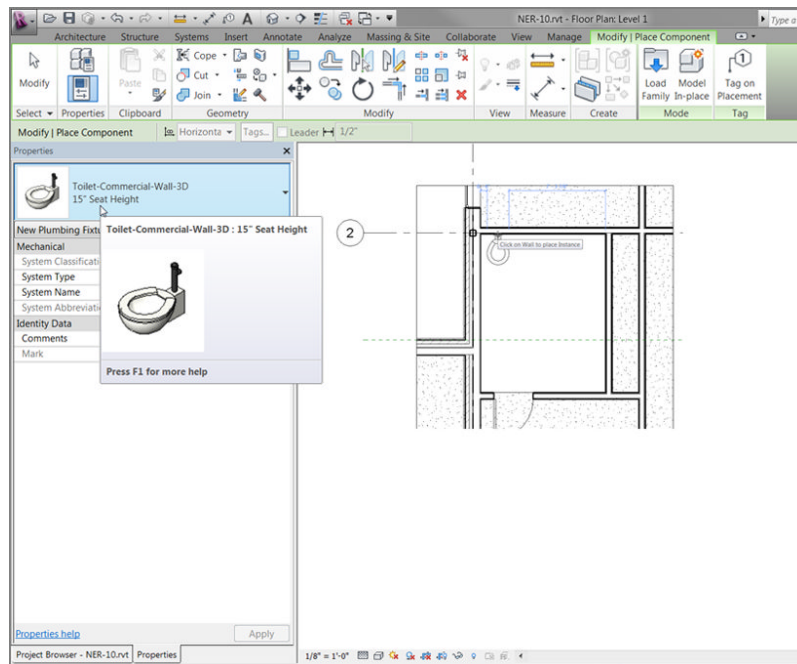

FIGURE 9.36: Placing the 15" (381mm) Seat Height toilet 6" (150mm) from the west wall, along the north wall
10. Place it along the north wall approximately 6" (150mm) from the west wall, as shown in Figure 9.36.